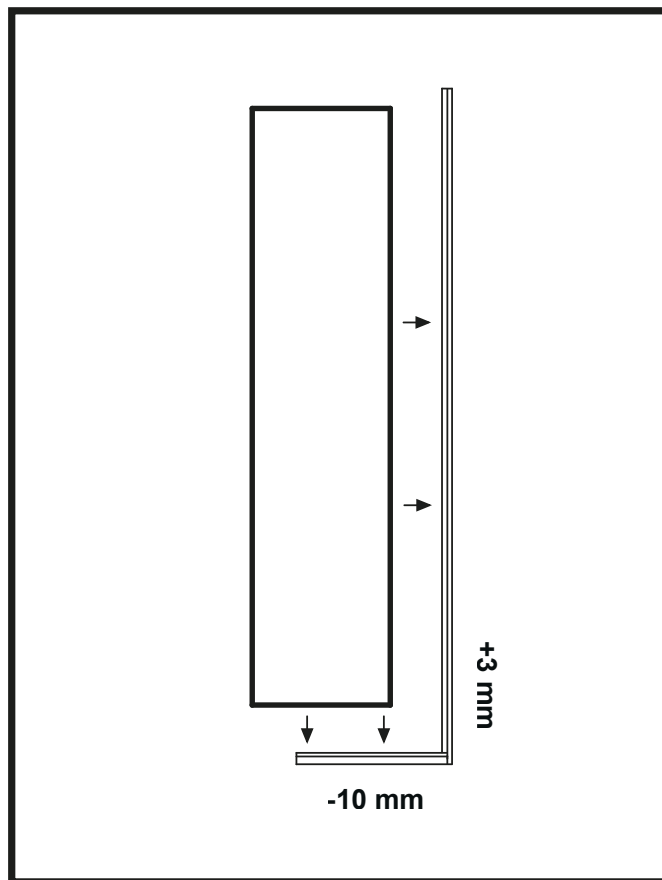

Figure 2
4. Check the length of the U-profile and glass. The bottom U-profile should be about 10 mm shorter than the glass and the longer vertical U-profile should be about 3 mm longer than the glass. (Figure 2)